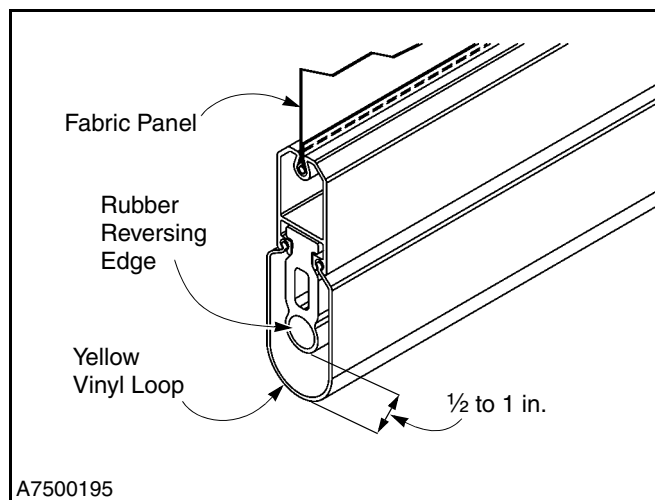

Figure 14
1. With the door in the closed position, check the yellow vinyl loop on the bottom bar. It should be in the position shown in Figure 14.
Damage to the rubber reversing edge or other bottom bar parts can occur if the door is allowed to seal too tightly against the floor. (See Figure 14.)